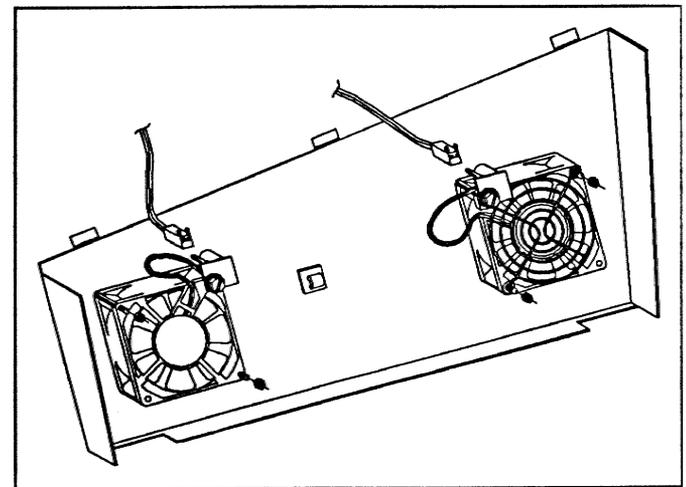

FIGURE 18-2. Fan Removal 02080630
c) Remove the two hex nuts which secure the fan to the side panel. See Figure 18-2.